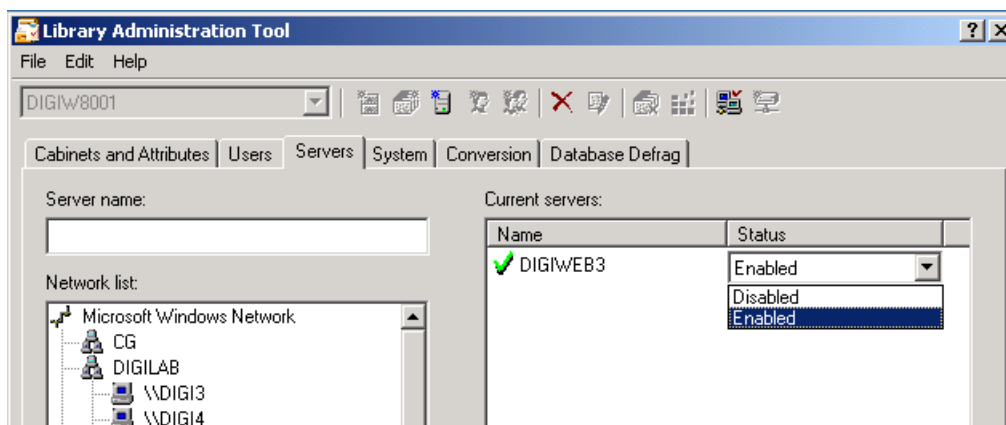

Figure 6-6. Status drop down list box
4. Click in the Status area of the remote server you wish to disable or enable. A Status drop-down list box appears. See Figure 6-6.